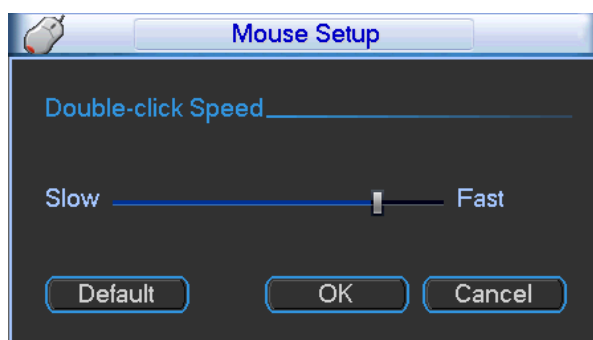

Figure 5-25
- Mouse property: Click mouse setup button, you can go to mouse setup interface. See Figure 5-25. You can set double click speed via dragging the slide bard. You can Click Default button to restore default setup.